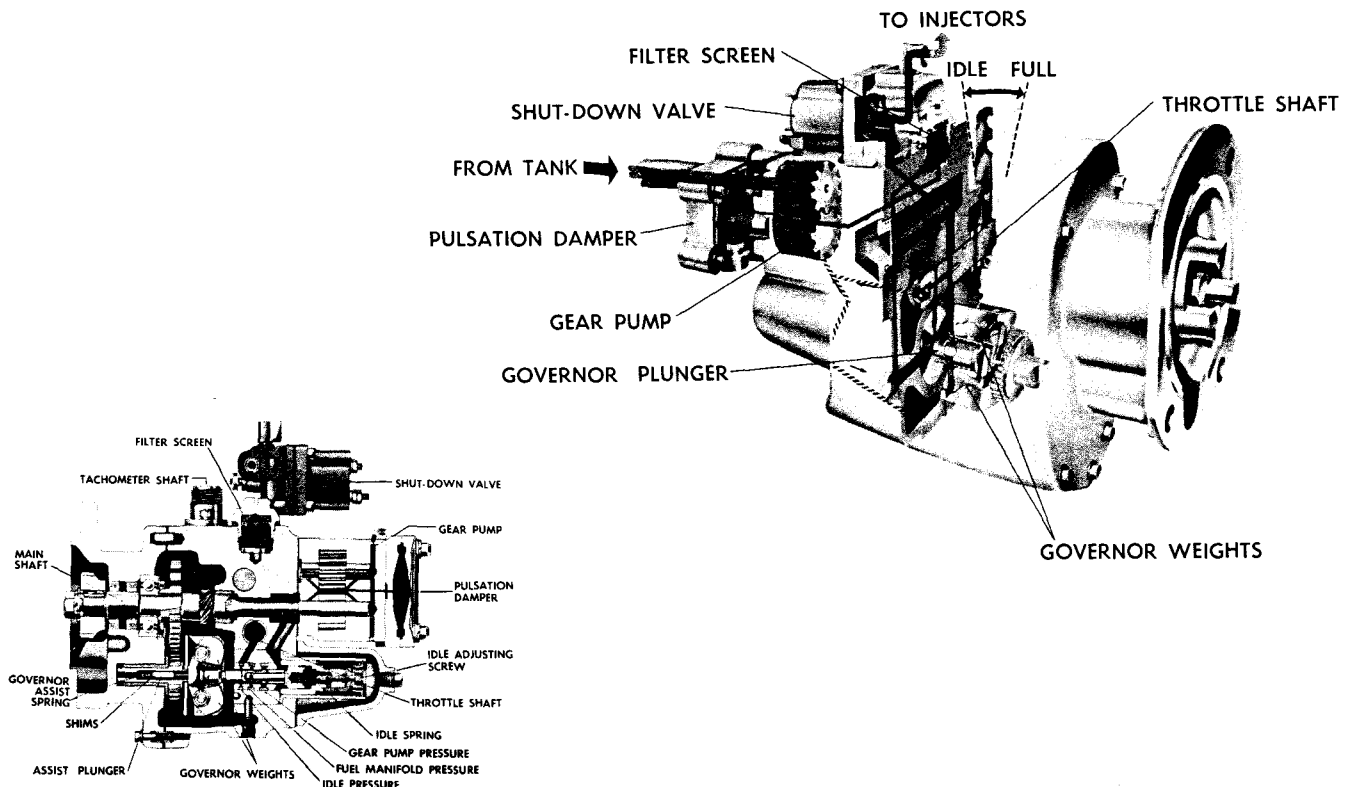
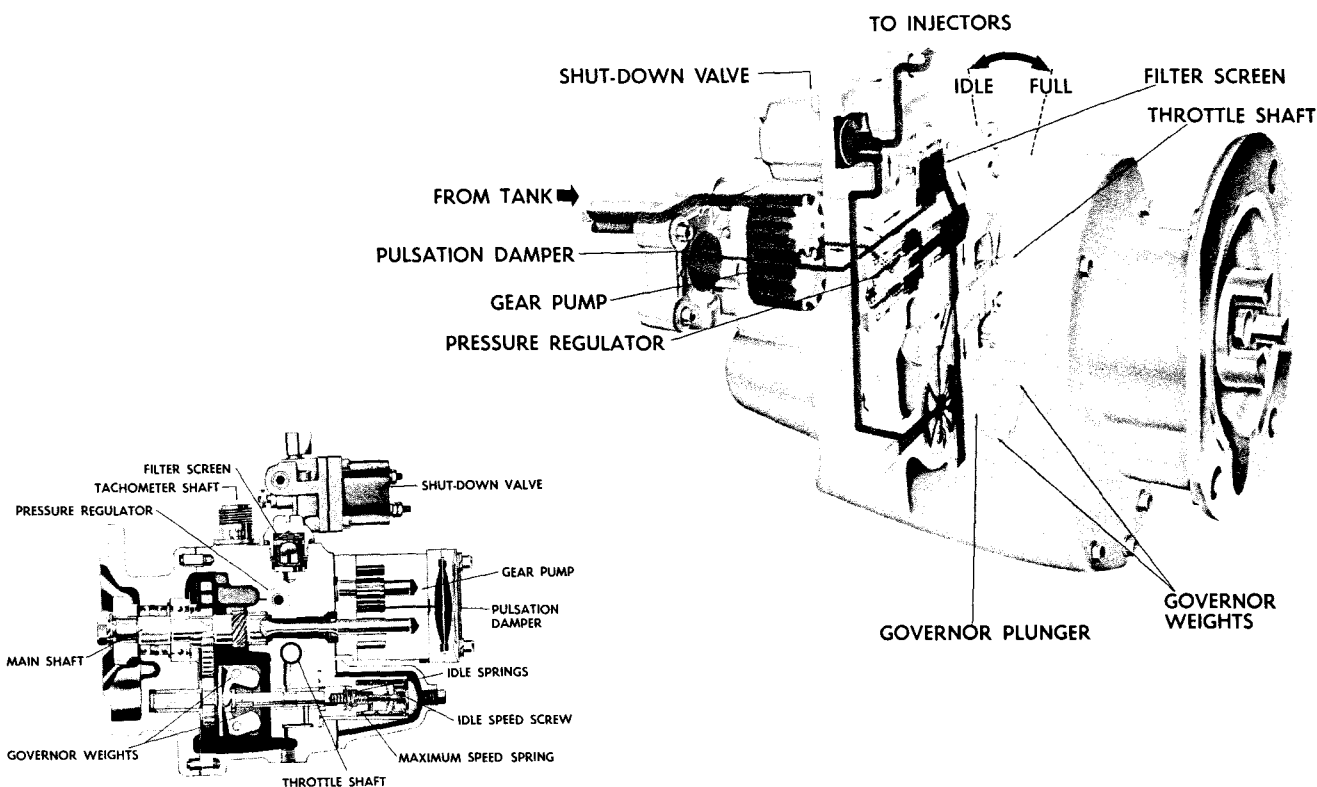

Fig. 1-1. PT (type G) fuel pump cross-section and fuel flow
Fig. 1-2. PT (type R) fuel pump cross-section and fuel flow
The PT fuel system consists of the fuel pump, supply and drain lines and passages, and the injectors. There are two types of PT fuel systems. The first type — commonly called PT-(type G) — is shown in Fig. 1-1. The second type — called PT-(type R) — is shown in Fig. 1-2.
3. The throttle which provides a manual control of fuel flow to the injectors under all conditions in the operating range. The location of fuel pump components is indicated in Figs. 1-1 and 1-2.
1. In the PT-(type G) fuel pump, to the governor assembly as shown in Fig. 1-1.
2. In the PT-(type R) fuel pump, to the pressure regulator assembly as shown in Fig. 1-2.
The pressure regulator, used only in the PT-(type R) fuel pump, functions as a bypass valve to regulate the fuel pressure to the injectors. By-passed fuel flows back to the suction side of the gear pump. See Fig. 1-2.